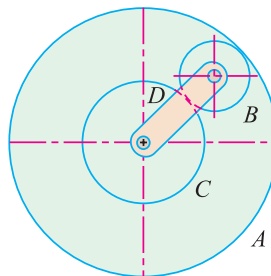

Fig. 34.14.
**Example 34.7.** An epicyclic gear consists of three wheels A, B and C as shown in Fig. 34.14. The wheel A has 72 internal teeth, C has 32 external teeth. The wheel B gears with both the wheels A and C and is carried on an arm D, which rotates about the centre of wheel A at 18 r.p.m.
Let  $d_A$ ,  $d_B$  and  $d_C$  be the pitch circle diameters of wheels A, B and C respectively. From the geometry of Fig. 34.14, we find that